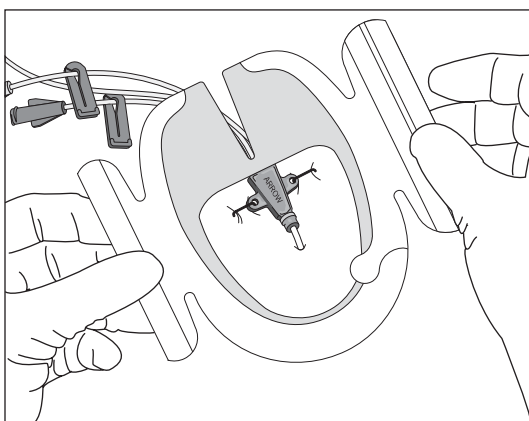

Figure 6
- Adhere center of transparent window over insertion site, while holding notched portion off the skin (refer to Figure 6).